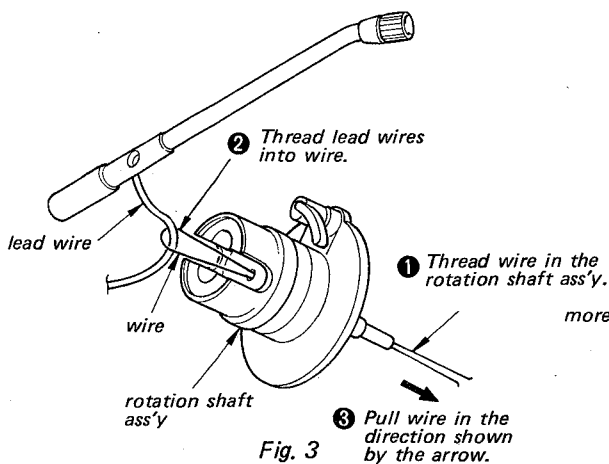

Fig. 3
3. Thread the lead wires into the rotation shaft ass'y. (Refer to Fig. 3.)